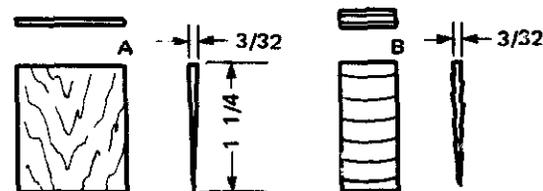

Fig. 11-19 Sizes of wood and metal wedges.
7. See figure 11-19. Prepare a thin wedge equal in width to the eye and about  $1\frac{1}{4}$  inches long. Drive it into the kerf to its maximum tightness.